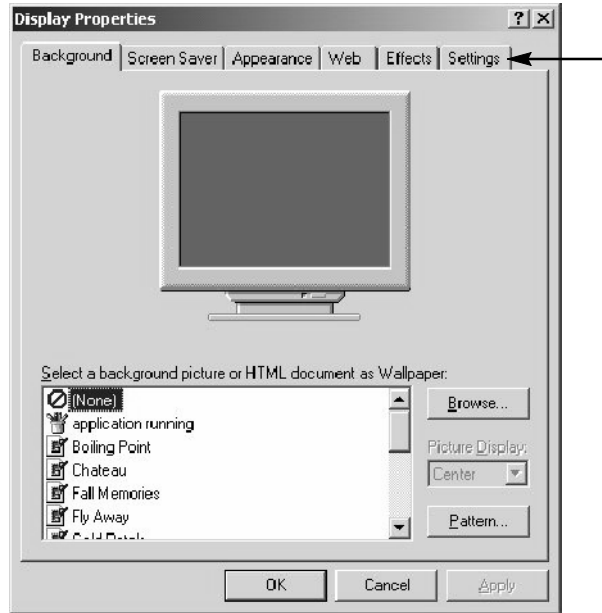

Figure 12: Settings tab
3. Click the Settings tab. See Figure 12.